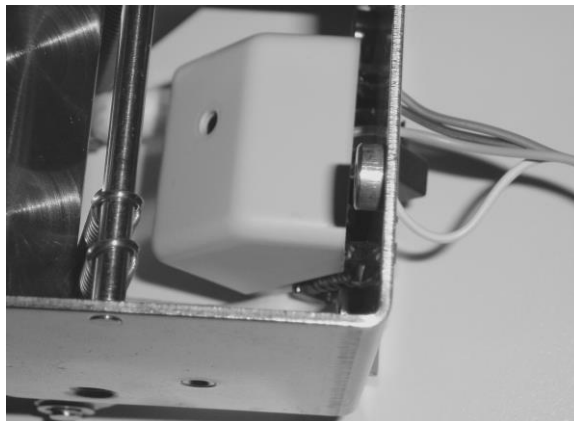

Figure 14 – Proper Shunt Switch Cover Orientation
- 4.17 With the shunt door still open, refer to Figure 14 to position the shunt switch cover in the proper orientation over the shunt switch assembly.